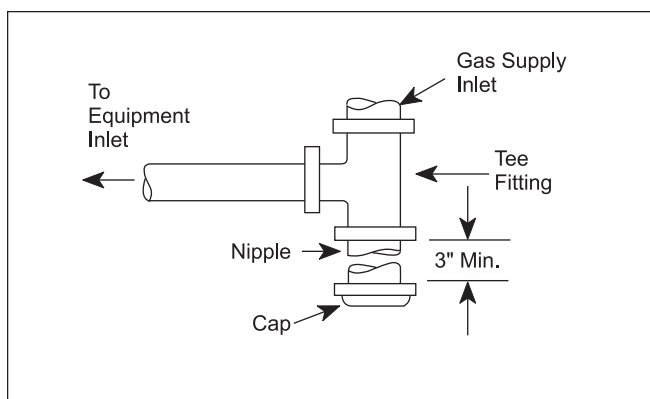

Figure 8. T-Fitting Sediment Trap Installation.
- A trap (drip leg) must be provided ahead of the gas controls (see Figure 8). A manual gas shutoff valve must also be provided for service convenience and safety. Check the local codes.